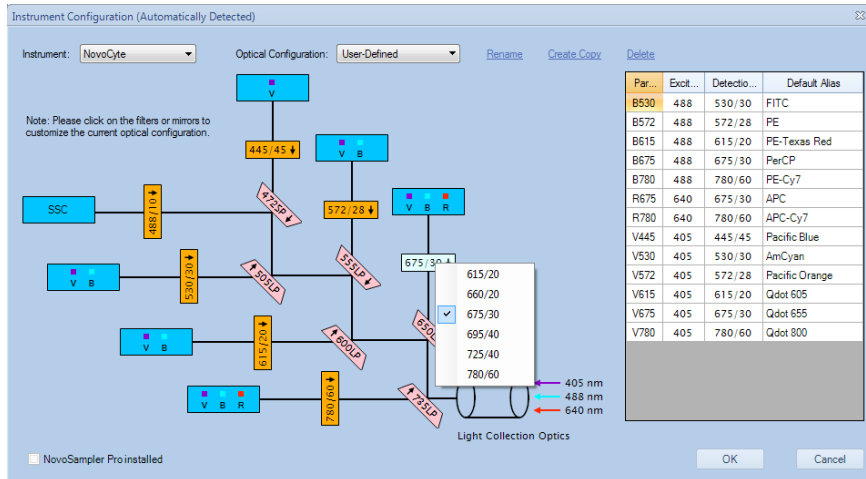

Figure 2-2 Customize the Instrument Configuration
- 3 If optical configurations other than the ones listed by the software are needed (i.e. users need create their own customized configuration), the *Customize Optical Configuration* in the *Access Privilege* window for the current user account needs to be enabled first as described in *Section 2.6.2.3* in *NovoExpress® Software Guide*. To make the customized optical configuration, click *Create Copy* in the *Instrument Configuration* window (Figure 2-2) to generate an editable copy of the configuration. Click *Rename* to rename the configuration if needed. Click the bandpass filter or dichroic mirror to be replaced and select the appropriate filter or mirror from the pop-up list. Once all the filters and mirrors desired to be replaced have been edited, click *OK* to continue. A customized optical configuration can also be deleted by clicking *Delete*.